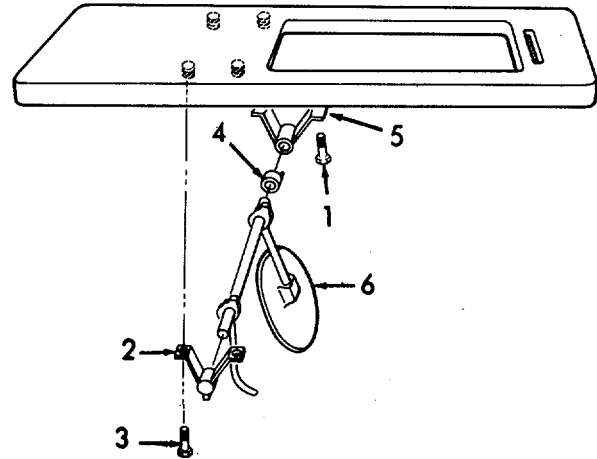

Figure 5-23. Knee Lifter Assembly Removal.
b. Removal. (Refer to Figure 5-23).
- (1) Remove two screws (1) and bracket (2).
- (2) Remove two screws (3), stop (4), and bracket (5).
- (3) Remove knee lifter assembly (6).